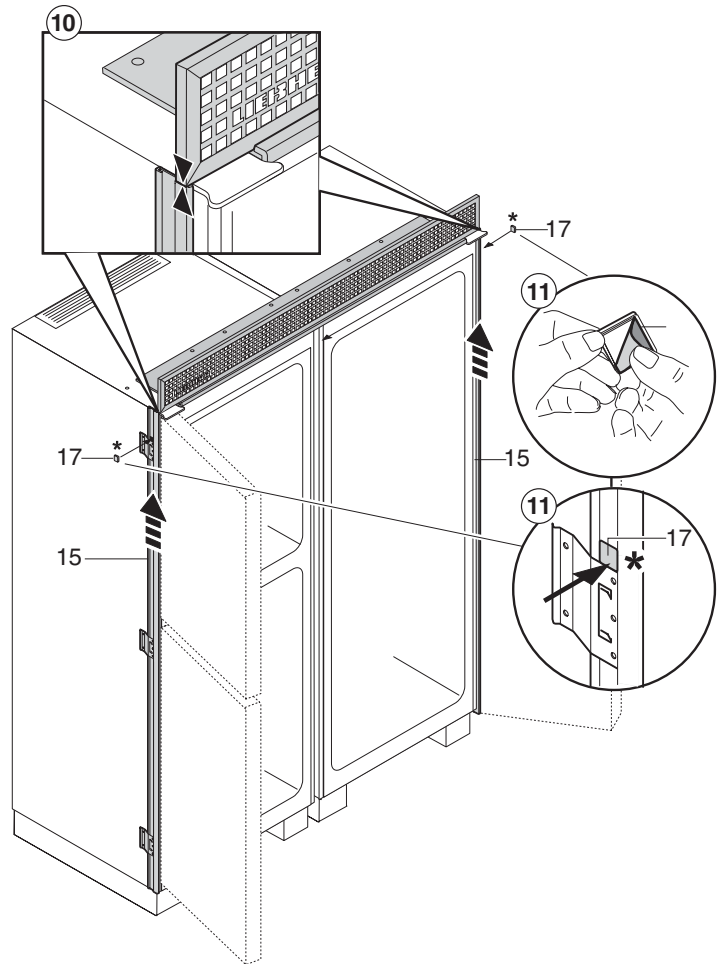
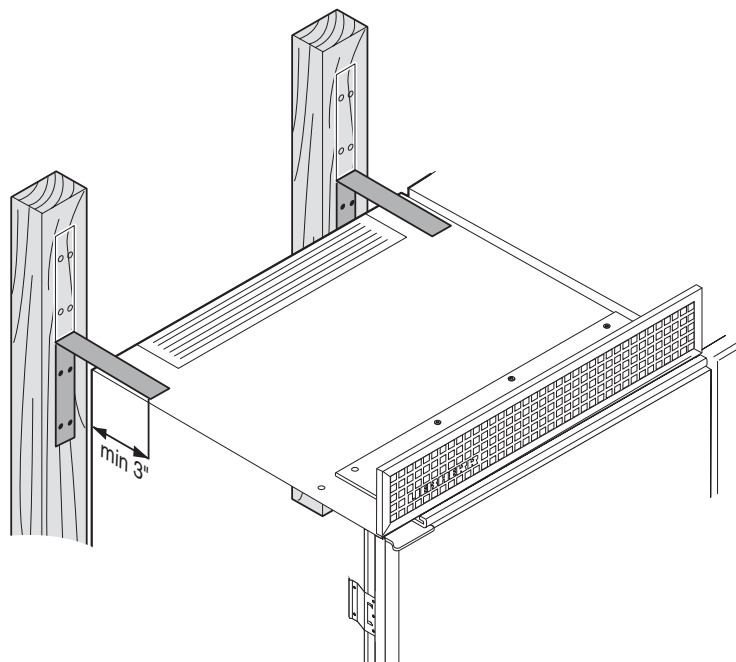

Figure 28
Figure 29
10. **Figure 28:** Slide the side installation frames (15) upwards until they are in contact with the underside of the ventilation grille.
11. Secure the side frames with the adhesive section (17) to prevent them from sliding down. Remove the protective film and affix the adhesive sections over the upper brackets.
12. **Figure 29:** Install the anti-tip brackets for each appliance. Refer To “Blocking for Safety.”